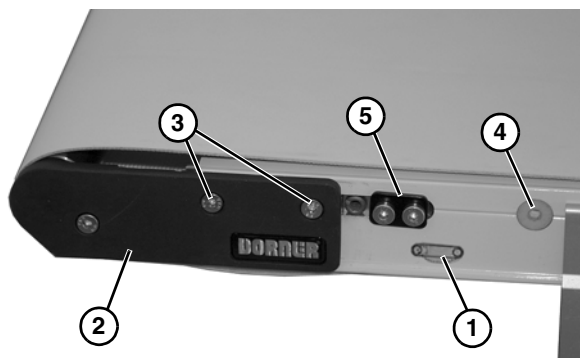

Figure 46
1. On tension end of the conveyor, identified with a  label (**Figure 46, item 1**), adjust head plate assembly (**Figure 46, item 2**): On both sides of conveyor, loosen fastening screws (**Figure 46, item 3**) and rotate pinion gear (**Figure 46, item 4**) to adjust head plate assembly.
2. Adjust head plate assembly so end of conveyor frame aligns with first tensioning mark (**Figure 47, item 1**). Tighten fastening screws (**Figure 46, item 2**) on both sides of conveyor to 60 in-lb (7 Nm).
3. If equipped with cam tracking assemblies (**Figure 46, item 1**), reposition against head plates and adjust belt tracking. Refer to "Conveyor Belt Tracking", page 19.